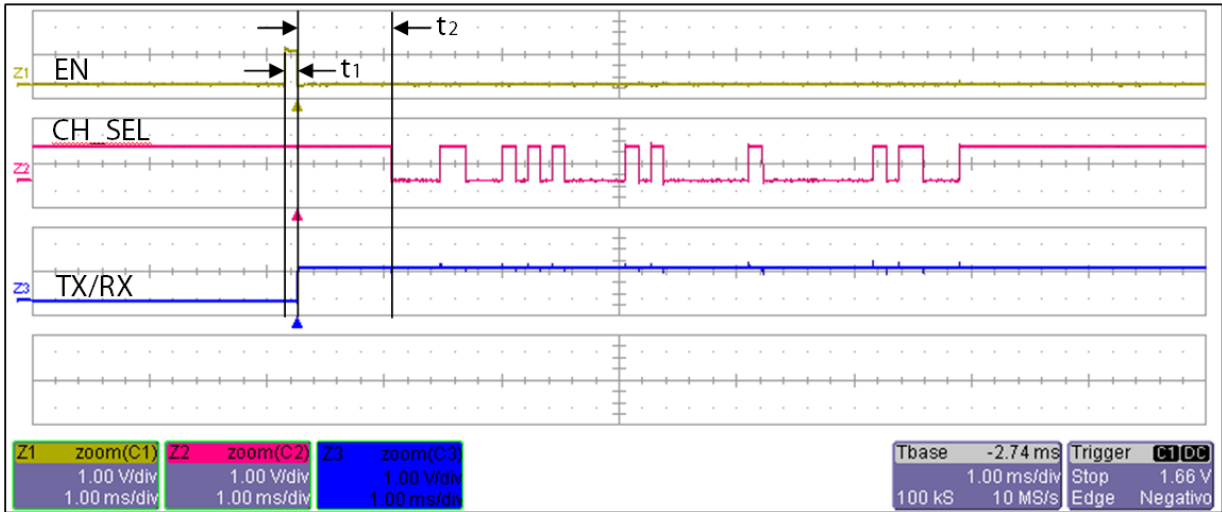

Figure 1: timings. $80\mu\text{s} < t_1 < 120\mu\text{s}$; $t_2 > 4\text{ms}$
- generate a high pulse **t1** with a duration within **80 μs and 120 μs** on **EN line** (see Figure 1).
The time **t2** between the end of the pulse on EN line and start of data transmission on CH_SEL must be at least **4 ms** (see Figure 1).